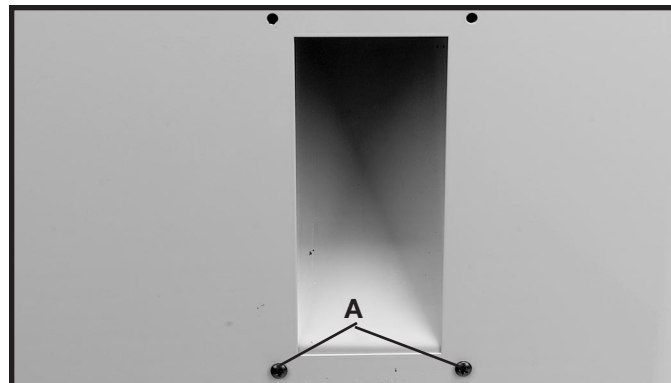

Fig. 16
Insert #10-32x1/2" pan head screws through holes (A) Fig. 16, in the cabinet and dust chute. Thread #10-32 hex nuts onto the screws, and tighten securely.